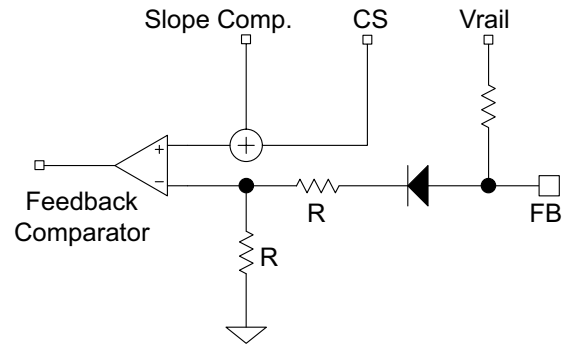

Figure 28. Feedback Pin Internal Behavior Circuit
The Feedback (FB) pin is used for voltage feedback looping. The feedback signal is provided from the secondary-side shunt regulator (TL431) and transfer through the opto-coupler to FB pin of AOZ7503. There is a pull high resistor which is built-in the AOZ7503, as shown in Figure 28. The gain to PWM comparator is 0.5V/V, and with one diode offset. The gain of feedback loop will be decreased due to the large pull high resistor. The design of the feedback compensation circuit should be given extra attention.